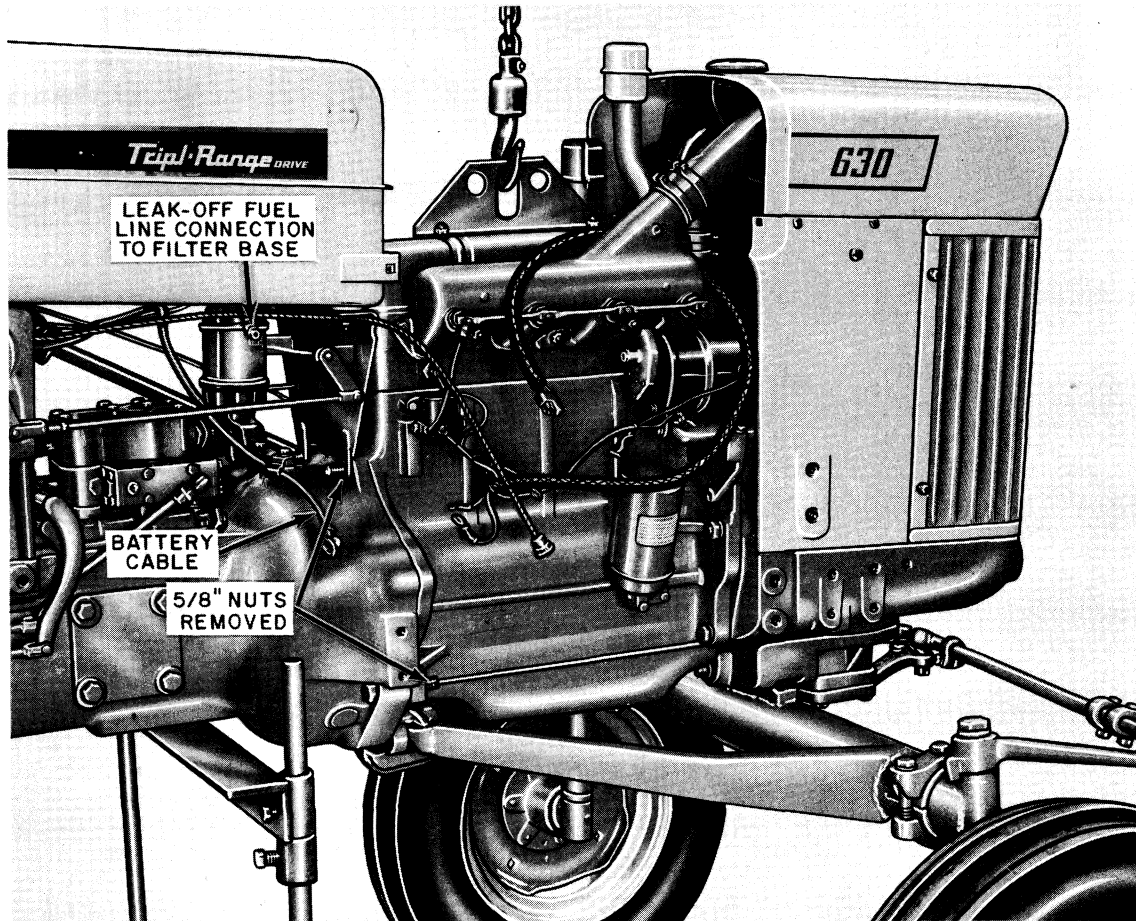

Fig. A-27 R.H. View Model 631 Tractor — Prepared For Splitting Engine From Torque Tube
22. Remove nuts from studs securing engine block to torque tube. If tractor is equipped with adjustable front axle, rear pivot bracket must be loosened by removing capscrews securing bracket to torque tube. Fig. A-27.